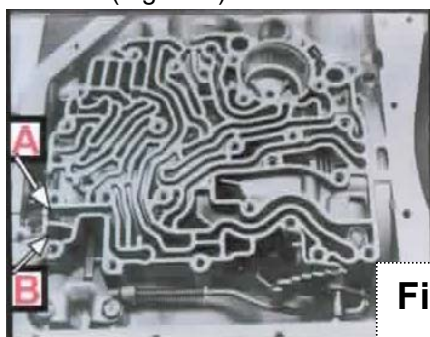
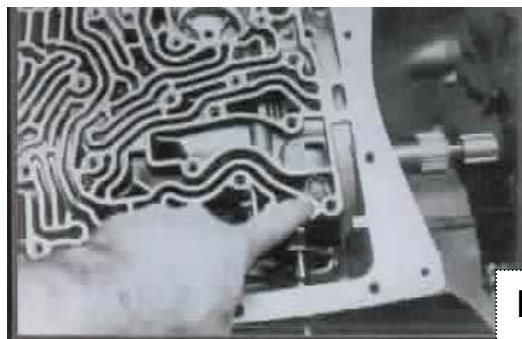

Figure: 1
Figure: 2
Step 2: Remove and discard governor screens from location (A) &/or (B) (Figure 1), and Pump screen (Figure 2)